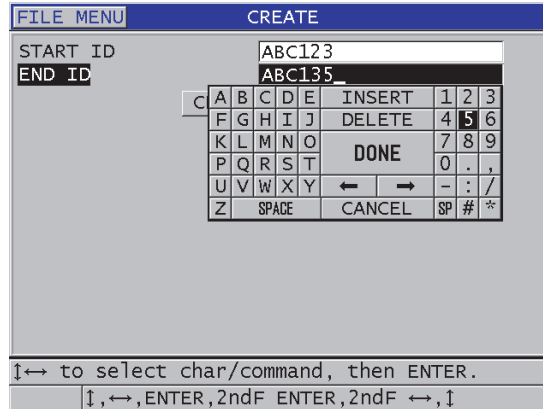

Figure 11-5 Selecting the ID range for the sequential file type
3. In the second page of the **CREATE** screen (see Figure 11-5 on page 188):